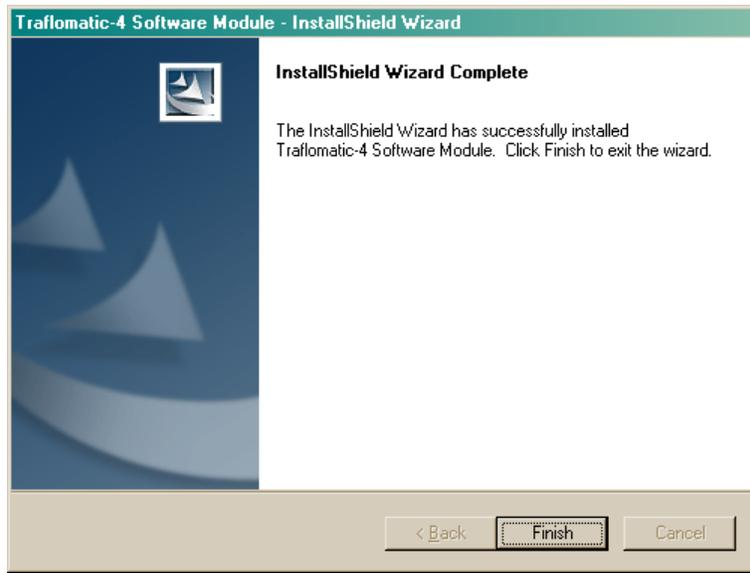

Figure 20
7. After a brief delay another window will appear(Figure 20) informing the user that the FREEDOMWare installation is complete and instructs the user to once again select the Finish pushbutton to complete the FREEDOMWare installation.